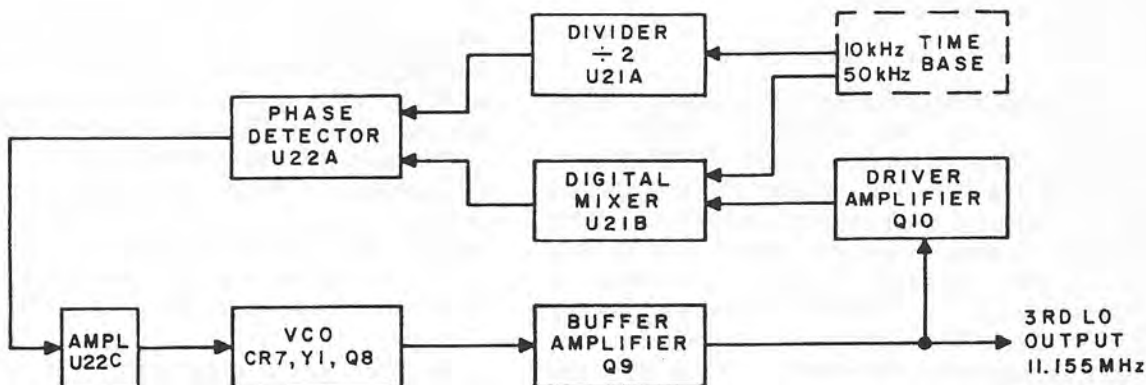

Figure 3-16. 3rd Lo Digital Ic Diagram
(1) 3rd lo synthesizer function. Figure 3-16 shows a digital ic diagram of the 3rd lo. Included in the diagram are reference designations that correspond to the 3rd lo schematic. The 3rd lo is part of the 1st and 3rd lo/time base schematic diagram, figure FO-16, sheets 1 and 2.
(2) Voltage-controlled oscillator. The voltage controlled oscillator (vco) for this synthesizer is formed by Q8, Y1, CR7, and their associated components. The oscillator is crystal-controlled to 11.155 MHz, and will be driven into proper phase relationship by the dc tuning voltage applied to CR7. The oscillator signal is buffered by emitter-follower Q9 and is split into two signal paths. One path is to board pin A55, the 3rd lo output. The other path is to flip-flop U21B. The flip-flop acts as a digital mixer, producing an output frequency equal to the difference between the vco frequency (11.155 MHz) and the frequency that is the nearest integral multiple of the clock frequency ($223 \times 50 \text{ kHz} = 11.15 \text{ MHz}$). The difference equals 5 kHz. This signal is applied to phase detector U22A along with a